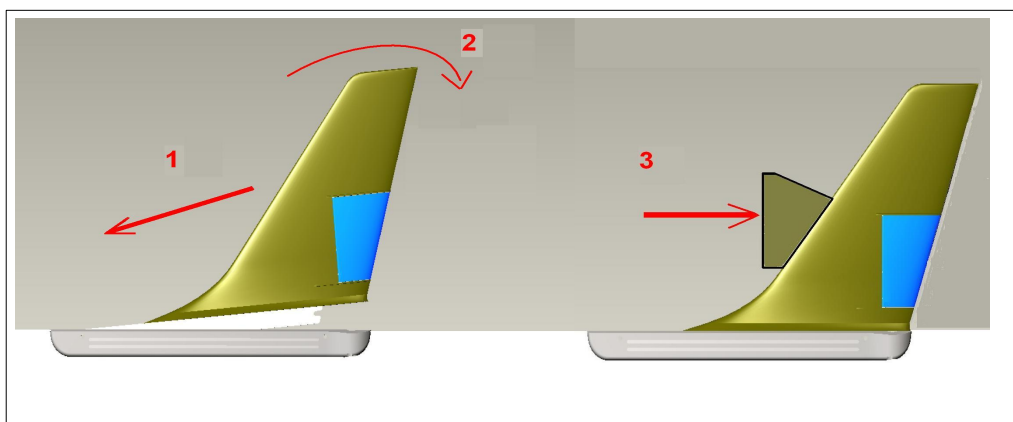

Fig.5 Slat fin assembly
2. Reverse the dismantling procedure, placing the front of the fin in the mast step so as to hook it to the pin. (direction 1 Fig.5).
3. Rotate the fin to insert it into the mast step (dir. 2 Fig.5).
4. Tap gently with a hammer to fasten the rear interlocking fork of the fin to the locking pin on the mast step (always with Teflon or wood between the fin and hammer) (dir. 3 Fig. 5).